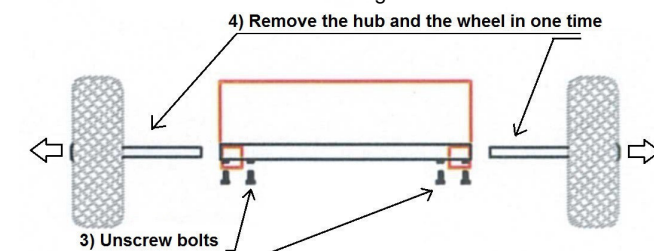

Fig.3
|  <p>Fig.1 Alternator fan and coupling area</p> | | |  <p>Fig.3 Engine fan and transmission belts</p> | | |
- Get wheels off. (FIG.3,4)